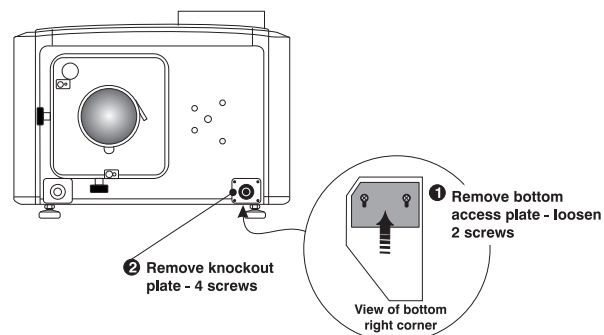

Figure 2-14 Remove the Knockout Plate
1. A small electrical access plate is located in the lower right corner of the projector faceplate. Loosen the two screws and slide the plate forward to expose the terminal block underneath. See **Figure 2-14**.